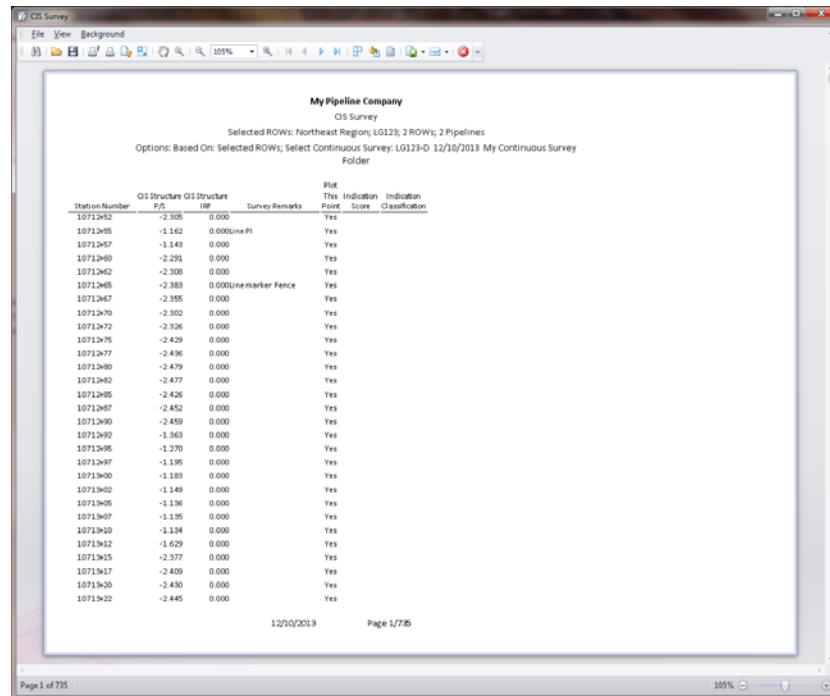

Figure 7-81. Print Preview
- 5 Click  **Print** to open a print preview window (Figure 7-81).